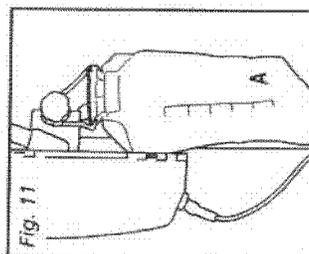

Fig. 11
5. Uncrimp and lower Bag A and hang onto Vapotherm i.v. pole clamp knob. (Fig. 11)